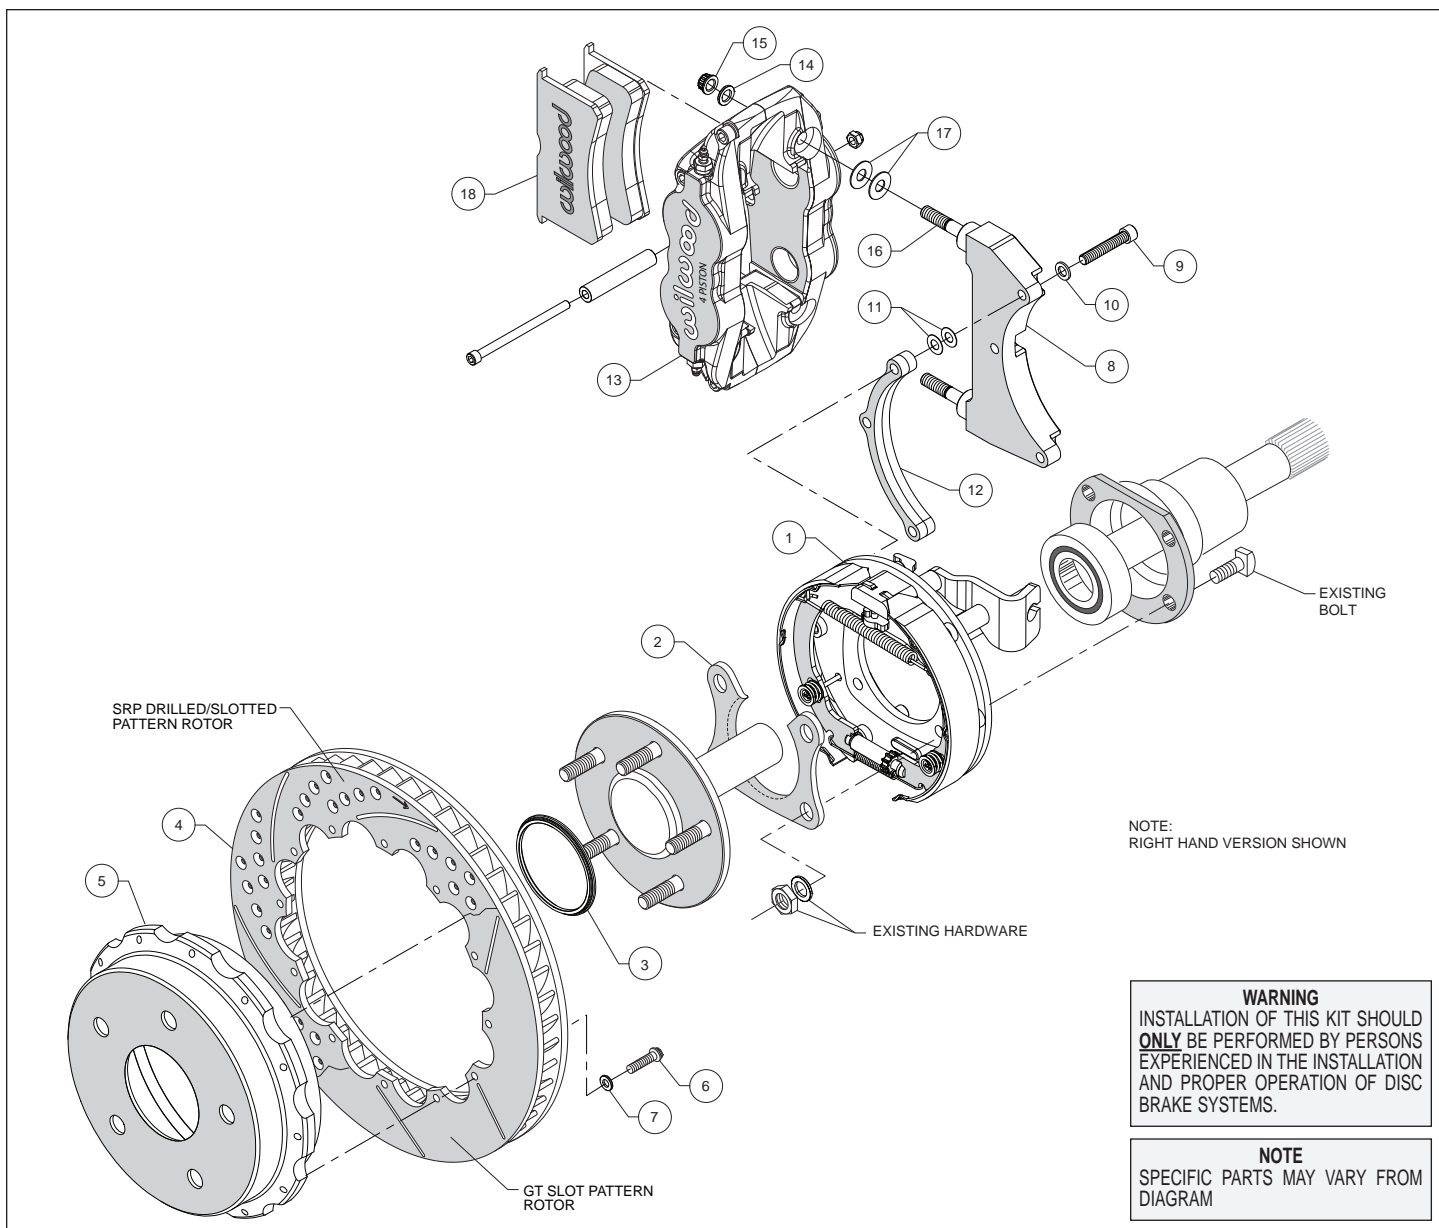
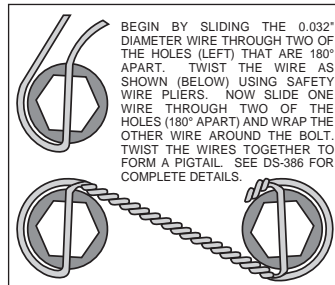

Figure 1. Typical Installation Configuration
Figure 5. Safety Wire Diagram
Assembly Instructions (numbers in parenthesis refer to the parts list, and Figure 1 on the preceding pages): **CAUTION:** All mounting bolts must fully engage clinch nuts. Be sure to check that all bolts are either flush or protruding through flanged side of clinch nut after shiming.
- Orient the bracket assembly (1) as shown in Figure 1 and Photo 1 and slide it onto the axle. Insert the axle and bracket into the axle housing. Ensure that the bracket assembly backing plate fits flush against the axle housing flange.
- Install the bearing retainer (2) with the opening pointing upward and the lip facing inward (toward the bearing), as shown in Figures 1 and 4, and Photo 2. Secure retainer and bracket assembly to the axle housing flange using the Original Equipment Manufacturer (OEM) bolts, washers, and nuts, Figure 1. Apply red *Loctite*® 271 to the OEM bolt threads and torque to OEM specifications.
•**NOTE:** Please reference the caution statement at the beginning of the assembly instructions. The caliper mounting bracket (8) should initially be installed with clean, dry threads on the mounting bolts. Orient the bracket as shown in Figure 1 and Photo 3, and install using bolts (9) and flat washers (10). Initially place two .015" shim washers (11) on each bolt between the bracket (8) and spacer (12), Figure 1. Temporarily tighten the mounting bolts. **NOTE:** End of bolt should not exceed inside face of insert. The bracket must tighten squarely against the back side of the bracket kit assembly (1). Inspect for interference from casting irregularities, machining ridges, burrs, etc. Later, after the caliper alignment has been checked, the mount bolts will be secured using red *Loctite*®.
•Orient the rotor (4) and the hat (5) as shown in Figure 1 and Photo 4. Attach rotor to hat using bolts (6) and washers (7). Using an alternating sequence, apply red *Loctite*® 271 to the threads, and torque to 140 **in-lbs**. For an added measure of security, the bolts may be safety wired using standard 0.032 inch diameter stainless steel safety wire as shown in Figure 5. Please refer to Wilwood's data sheet DS-386 (available at www.wilwood.com/Pdf/DataSheets/ds386.pdf) for complete safety wire installation instructions.
•Slide the rotor registration adapter (3) onto the axle register on the axle flange with the smaller O.D. facing toward the rotor/hat (4/5), Photo 5. Align the hole pattern in the hat with the stud pattern on the axle flange and slide into place, Figure 1 and Photo 6. **NOTE:** The rotor/hat must fit flush against the axle flange or excessive rotor run out may result. Install three lug nuts (finger tight) to keep the rotor/hat assembly in place while continuing with the installation. **NOTE:** Some OEM and after market axles come with stud sizes larger than 0.50" diameter. Verify stud size and have a qualified machine shop drill the bolt circle of the hat/rotor to the correct stud size, if necessary.
•Lubricate the caliper mounting studs (16) with lightweight oil. Initially place two .035" thick shims (17) on each stud as shown in Figure 1 and Photo 7. Mount the caliper (13) onto the bracket (8) using lock nuts (15) and washers (14), Figure 1. Temporarily tighten the lock nuts and view the rotor through the top opening of the caliper. The rotor should be centered in the caliper, Photo 8. If not, adjust by adding or subtracting shims (11) between the bracket (8) and the spacer (12). Always use the same amount of shims on each of the three mounting bolts. Once the caliper alignment is correct, remove the bracket mounting bolts (9) one at a time, apply red *Loctite*® 271 to the threads, and torque to 180 **in-lb**.